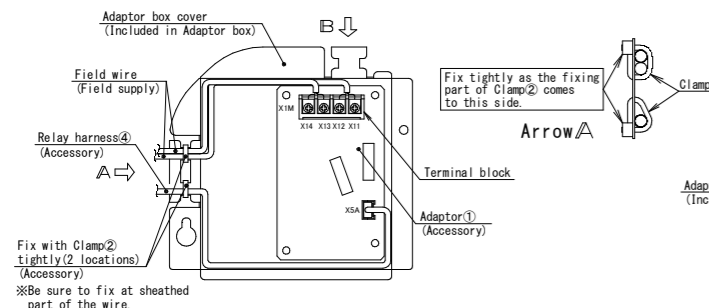

Figure 2
- (3) Handle the grounding wire attached to the Adaptor box, the Relay harness④ and field wires as shown in Figure 2. Connect the grounding wire with the grounding screw (attached to the Adaptor box) (Figure 3)
- (4) Fix the wires connected in (3) with the Clamps② to the Adaptor box cover tightly.
- Handle the wires so as not to pass on the Adaptor①.